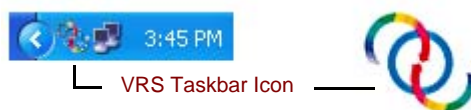

Figure 2-4. VRS Taskbar Icon
- 5 For ImageControls-based applications, the VRS icon (Figure 2-4) will display in the Windows taskbar as soon as you select the scan source. For ISIS and TWAIN applications, the VRS icon will display when the scanner interface dialog box is displayed, or when you start scanning. Refer to *Kofax VRS Scanning Interfaces* on page 18 for more information.